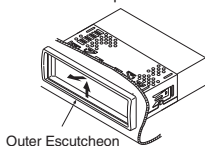

Figure 7
4. Mount the outer escutcheon so that all the hooks are locked. (Figure 7, 8 on page 28)
2. Press the outer escutcheon upward and remove it. (Figure 7)